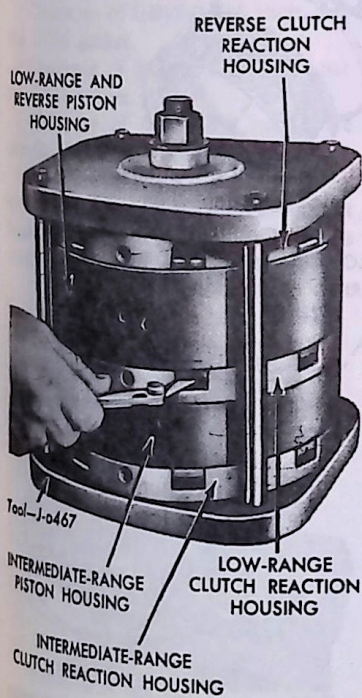

FIG. 59 Range Clutch Clearance Check
8. Using a small screwdriver, separate the reaction plate from the clutch plate and insert two feeler gauges through the slots 180 degrees apart. Measure the clearances in the clutch at four of the slots (90 degrees apart) and record the measurements (Fig. 59). Do not force the feeler gauge between the plates. This clearance must be 0.030-0.040 inch on MT-30 and 31 models and 0.040-0.050 inch on MT-40, 41 and 42 models.
Check the clutch clearances if any pistons, piston housings, apply plates, reaction housings, Belleville springs, or clutch plates have been replaced in the low-range, intermediate-range or reverse clutches. Perform this check before assembling these clutches in the transmission housing, using the tool shown in Fig. 59. These clutches should be checked on every rebuild or disassembly to be certain they meet the proper clearance specifications of:
1. Place the intermediate-range clutch reaction housing (yellow marked) in the tool with four of the slots adjacent to the four posts of the tool (Fig. 59). Refer to the note concerning color coding of the clutch parts in the Specification Section.
1. Use a small screw driver to separate the plates, and then measure the clearances between the clutch friction plates and the clutch apply plates of the reverse clutch with a feeler gauge. This clearance should be 0.010-0.015 inch for single plate and 0.020-0.030 inch for three plate (Fig. 59).